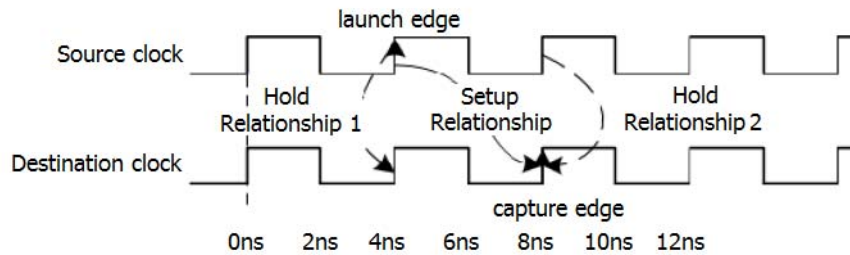

Figure 6-1: Example of Setup and Hold Relationships for a Path
**IMPORTANT:** There are two hold relationships for each setup relationship. (1) The first hold relationship ensures that the setup launch edge is not captured by the edge arriving before the active capture edge. (2) The second hold relationship ensures that the edge after the active launch edge is not captured by the active capture edge. The timing analysis tool calculates both hold relationships but only the most restrictive is kept during analysis and reporting. See Figure 6-1, Example of Setup and Hold Relationships for a Path.